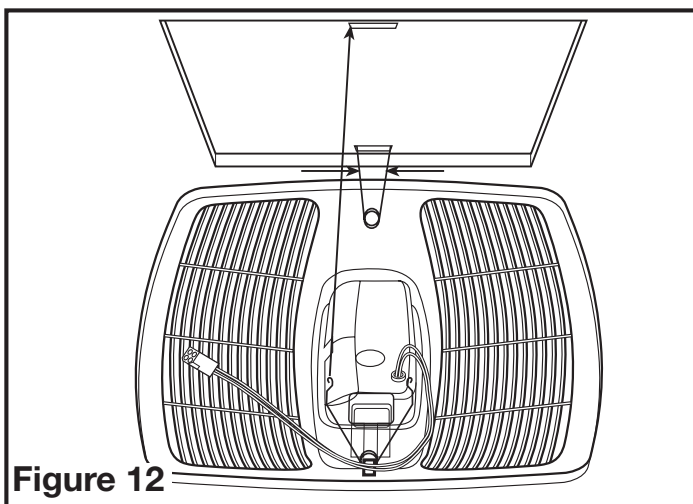

Figure 12
5. Install the grill by squeezing the springs together and installing it up into the slot furthest from the wire compartment on the fans housing. Attach the 4 pin quick connect from the grill to the 4 pin connector on the top of the wire cover. The cord will only fit one way into the receptacle. Install the other spring and push the grill up into position. (Figure 12).